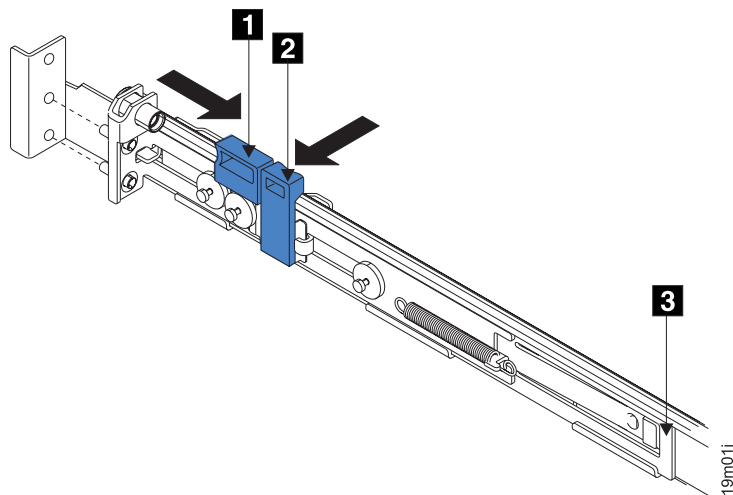

Figure 38. Opening the back latch-lock carrier assembly
5. Push the back rail bracket **1** (Figure 38) toward the front of the rail until it stops. The rail is now at its shortest adjustment.